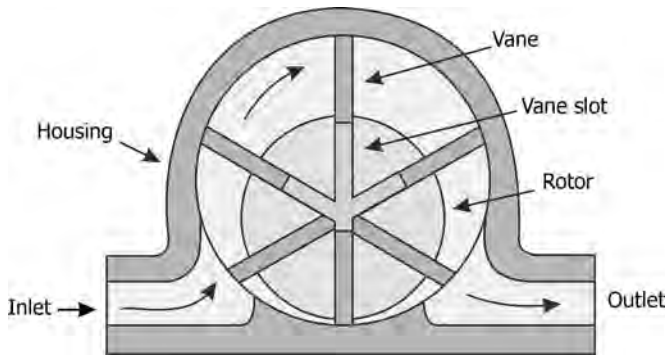

FIGURE 4.32 Rotating vane positive displacement flow meter.
- Rotating vane meters (Figure 4.32) have spring loaded vanes that entrap increments of liquid between the eccentrically mounted rotor and the casing.